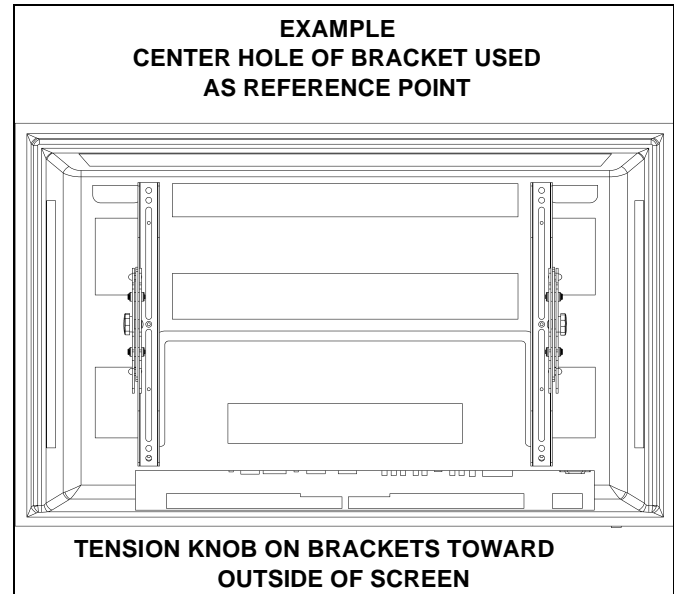

Figure 2
3. Using the center hole on the interface bracket as a reference point, align the bracket with the center line of the display. (See Figure 2)